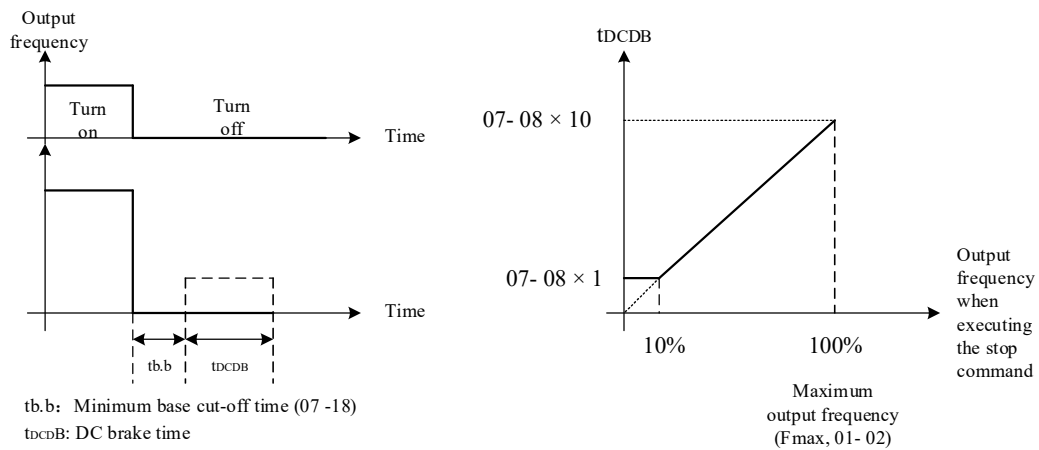

Figure 4.3.82 DC brake stop
(3) 07-09=2:
- The DC brake time (tDCDB) in Figure 4.3.82 is determined by the setting value of 07-08 (DC brake time while stopping) and the frequency when the operation command is removed.
- Please refer to Figure 4.3.82 to understand the DC brake stop function.